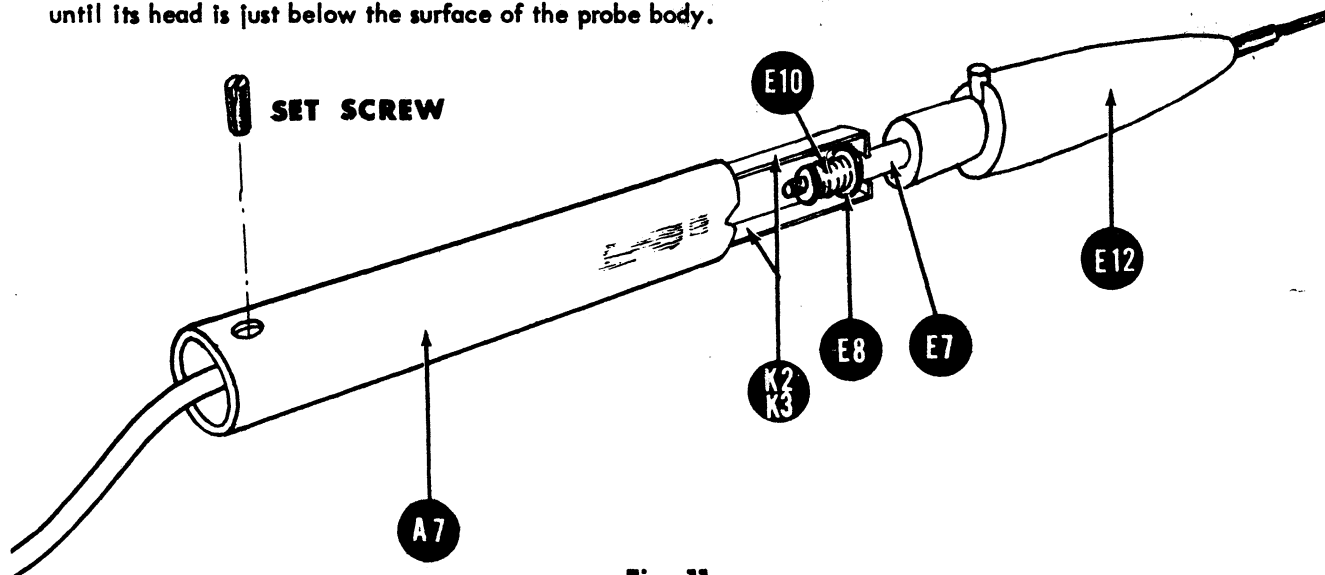

Fig. 11
- () Fig. 11. Slip the free end of the co-axial cable into the notched end of the probe body A7. Move the probe body down the cable over the contact holder assembly until only the ends of contacts K2 and K3 protrude from it as shown. Push the fiber washer E8 away from the blunt end of the nose-piece, simultaneously compressing spring E10, and hold E8 in this position with one hand. Fold the palm of the other hand around the probe body with the thumb and forefinger of this hand in a position to press the ends of K2 and K3 together. Now align the
two sections of the probe as shown in Fig. 11, the jaws formed by the ends of contacts K2 and K3 pressed closed on fiber tube E7, between E8 and the blunt end of the nose-piece. Release fiber washer E8 (and the spring) to pin the closed jaws formed by contacts K2 and K3 against the blunt end of the nose-piece but continue to press the jaws closed or one or both of the contacts will slip out. Now use the hand that has just been freed to move the probe body down the contacts to the jaws formed by the ends, releasing your pressure on the jaws only when the end of the probe body is sufficiently close to the jaws to ensure that the contacts will not spring free. Then move the probe body down on the nose piece until either one of the notches engages the white pin. Next, grasp the probe body in one hand, and close the 3rd, 4th, and 5th fingers of the other hand about the co-axial cable at a point about 2" from the end of the probe body. Pull on the cable until the emerging end of the black fiber contact holder E5 can be gripped by thumb and forefinger. Maintaining your grip on the cable, rotate E5 until the #8 threaded hole is directly under the #8 hole in the probe body and insert the #8 set screw. Turn the screw until its head is just below the surface of the probe body.